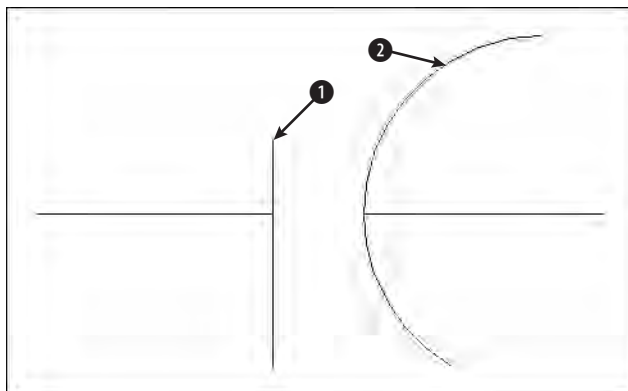

Figure 10-22: A poorly drawn capacitor symbol
2. Save the file as `ab10-07.dwg` in your AutoCAD Bible folder. It is a capacitor symbol from an electrical schematic, as shown in Figure 10-22.
Select an object or [DElta/Percent/Total/DYnamic]: *Pick the line at 1 in Figure 10-22.*
Select an object to change or [Undo]: *Pick the line at 1 in Figure 10-22.*
Select an object or [DElta/Percent/Total/DYnamic]: *Pick the arc at 2 in Figure 10-22.*
Select an object to change or [Undo]: *Pick the arc at 2 in Figure 10-22.*